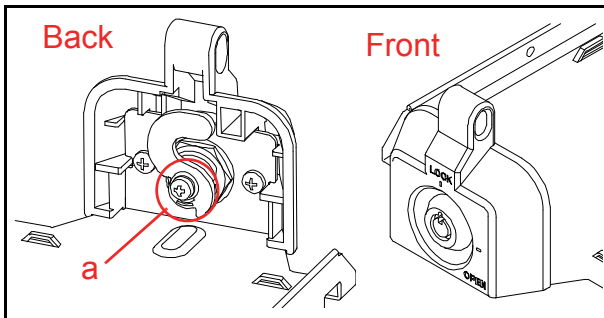

Figure 11 Metal Lock Installation 2
3. Retain the Cylinder and the Door Lock Tang by the single (1) Screw provided with the Cylinder (Figure 11 a).